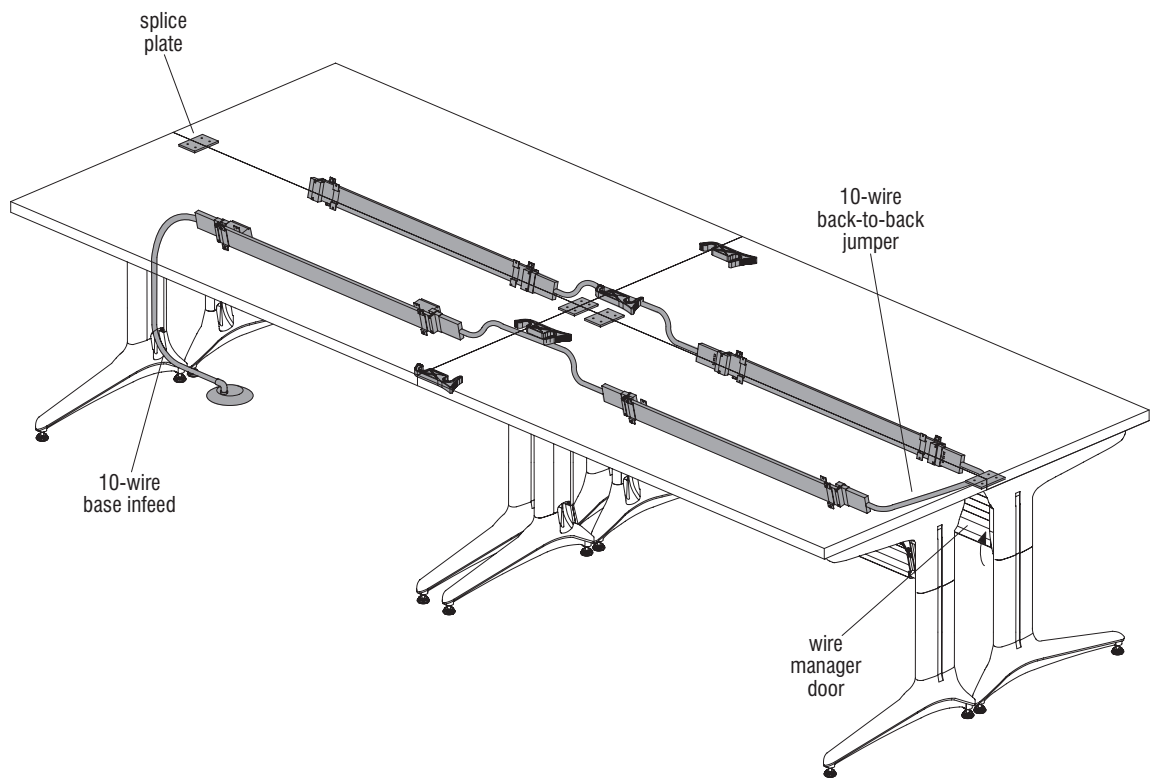

Figure 11
5. Install a 10-wire base infeed to one of the last two tables (opposite end from the 10-wire back-to-back jumper). The power will be routed down the first row and will cross over to the opposite row at the first two tables (Figure 11).
7. The back-to-back tables (or rows of tables) must now be mechanically connected to each other. Close the wire manager doors and bring the tables close to each other so that the worksurfaces touch along the back edge. Level the tables. Locate the two sets of pre-drilled splice plate holes on the underside of the back edge of the worksurfaces, then install a splice plate at each end of each table in the back-to-back configuration (Figure 11).